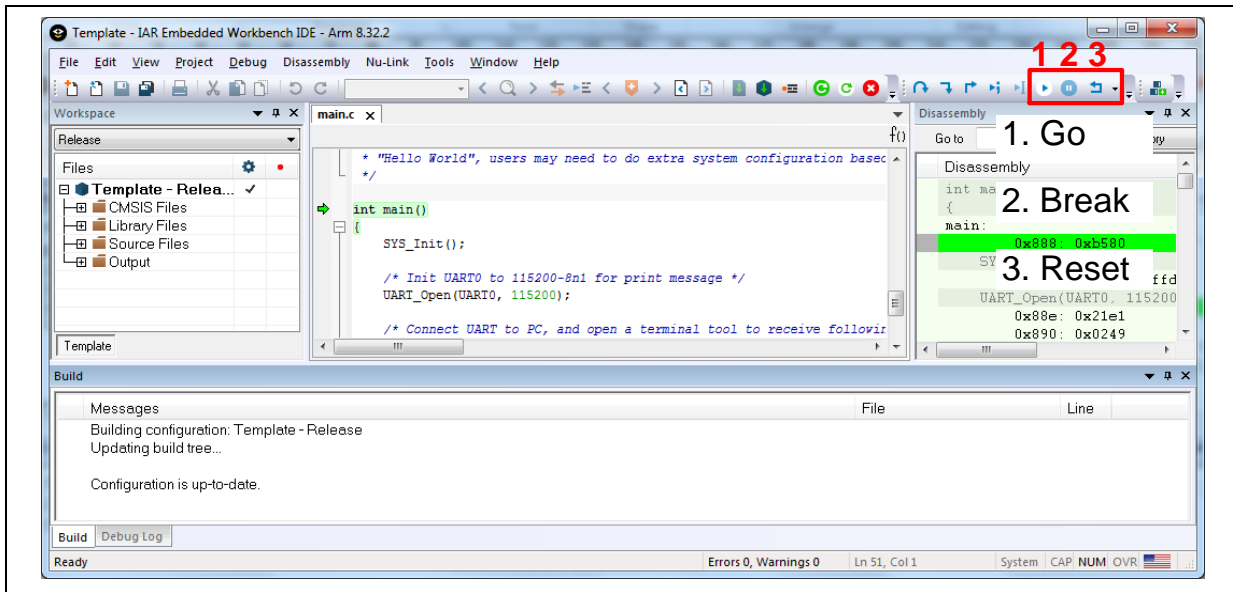
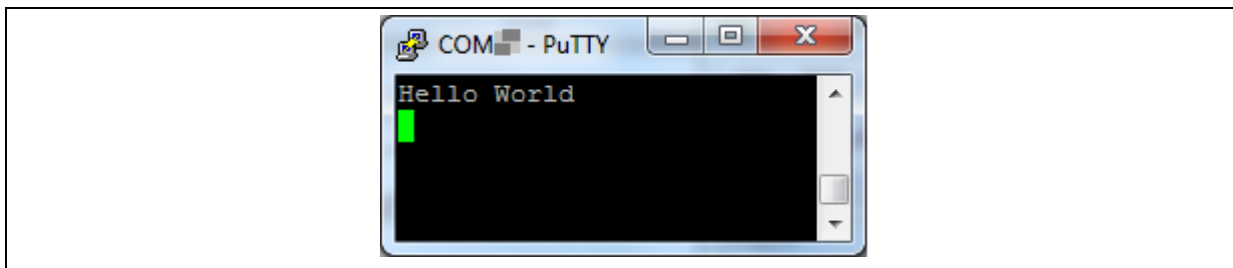

Figure 4-17 IAR EWARM Debug Mode
Figure 4-18 Debug Message on Serial Port Terminal Windows
- 4. Figure 4-17 shows the debug mode under IAR EWARN. Click “Go” and the debug message will be printed out as shown in Figure 4-18. User can debug the project under debug mode by checking source code, assembly language, peripherals’ registers, and setting breakpoint, step run, value monitor, etc.